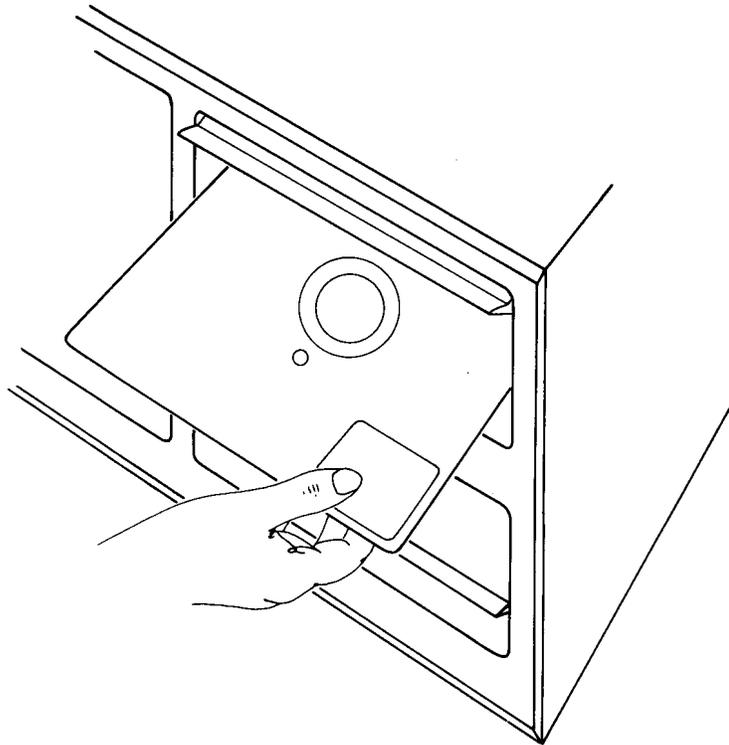

Fig. 3—Inserting the Diskette
- (b) Grasp the diskette between the thumb and index finger. The label should be face up and toward the operator (Figure 3).